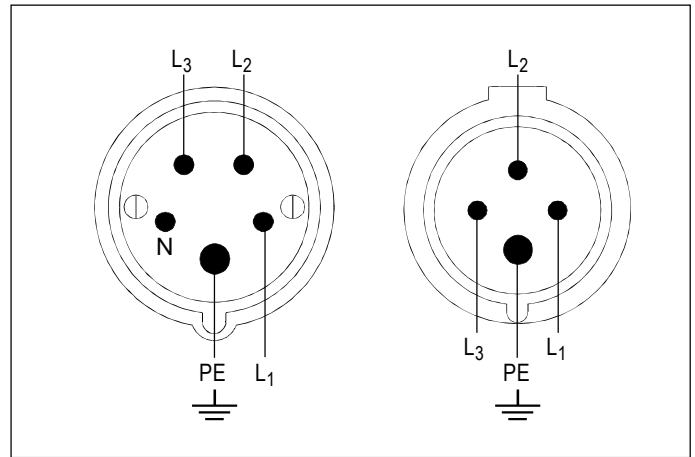

Fig. 6
- Yellow-green lead = protective earth conductor (PE). The other conductors, L₁, L₂ and L₃, are connected to three phases of the mains plug (Fig. 6). The phase sequence is not important.